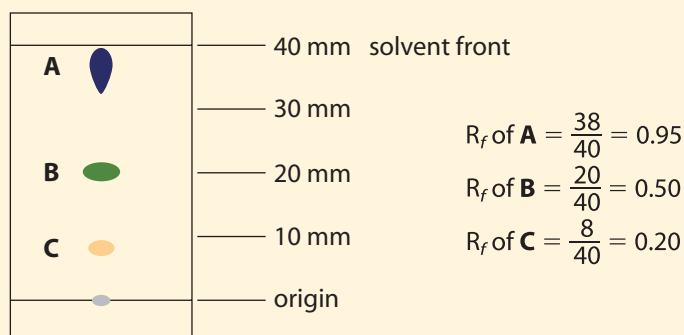

Figure 9.3 Chromatogram with retention factors
- The retention factor, R_f , is used to characterize and compare components of samples (see Figure 9.3). Calculate the R_f value for each of the spots on the chromatogram: